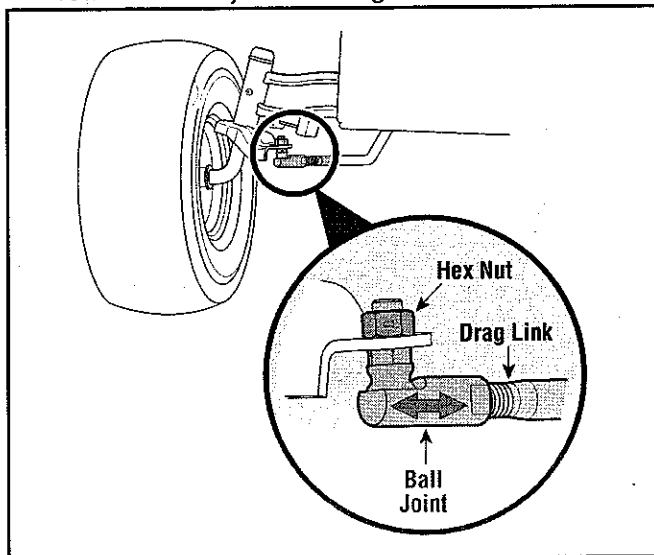

Figure 16
1. Loosen the jam nut found on the drag link at the rear of the ball joint. See Figure 16.
2. Remove the hex nut on the top of ball joint. See Figure 16.